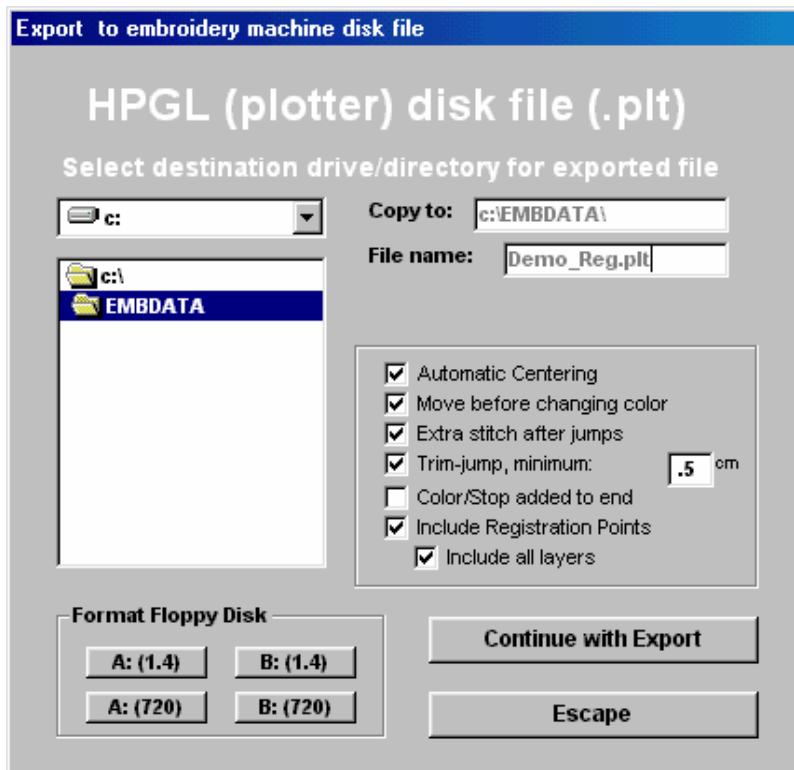

Figure 7: Export/Save window for HPGL file.
- Select **HPGL plotter (.plt)**. Export window will open. See Figure 7.